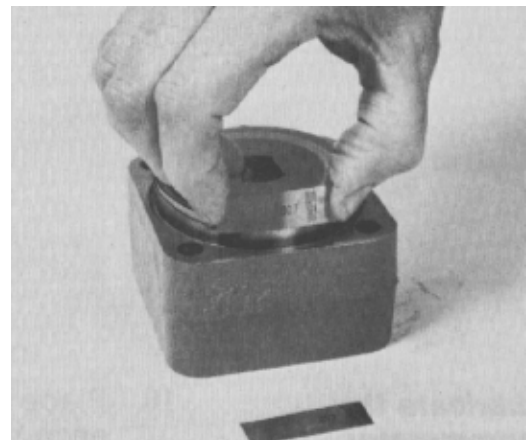

Figure 99
19. Put the metering ring on a hard flat surface. Put the assembled metering package into the metering ring with the commutator cover down, so the drive plate is partially out of the metering ring (Fig. 99). (A suitable wood block under the metering package will hold it in this position.) Put one piece of 0.007 in. (0.18 mm) shim stock approximately 0.5 in. (12 mm) wide and 1.5 in. (38 mm) long between the metering ring and drive plate in three places approximately equal distance around the outside diameter of the drive plate.